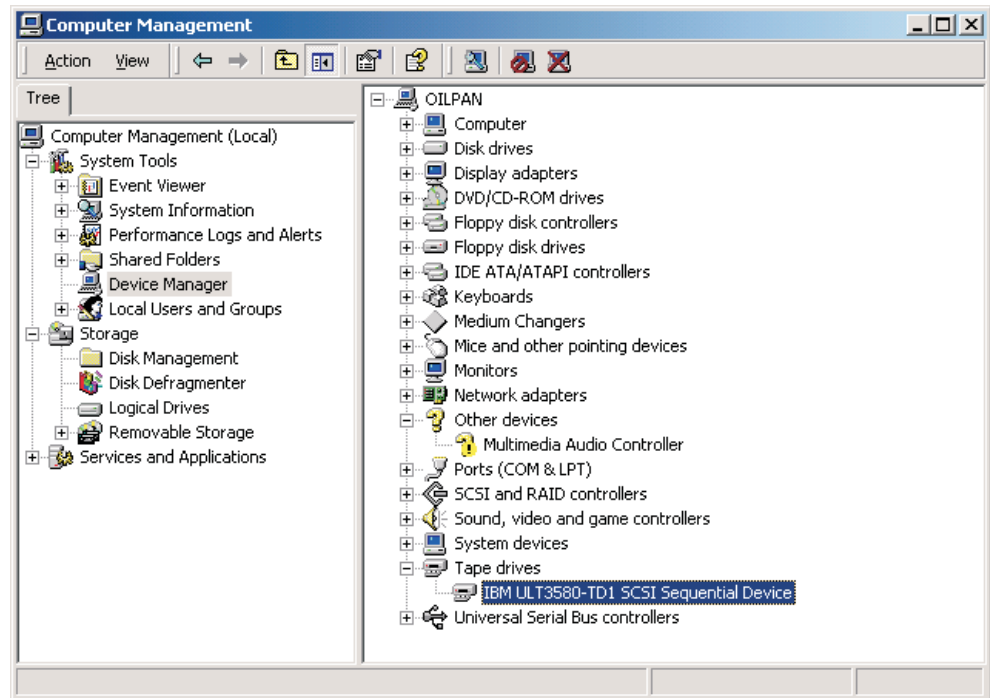

Figure 35. Verifying the Ultrium Device Was Installed Correctly
17. You should be able to verify that the device was installed correctly. See Figure 35 on page 217. Repeat steps 8 through 16 for every device you install. Remember, if you are installing a tape library you will need to install drivers for both the tape drives and the medium changer. To install the medium changer driver, follow steps 8 through 16 on all discovered Medium Changer devices.